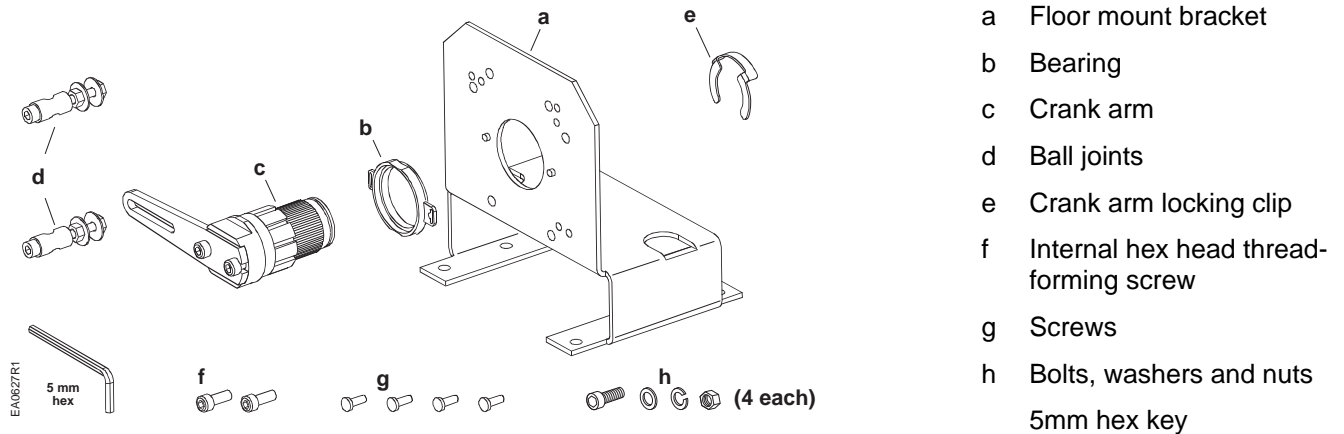

Figure 1. Contents of ASK71.1U Kit.
In thin duct sections, use a reinforcing plate and the bolts and washers (item h, *Figure 1*) when attaching the actuator to the duct.
1. Attach the mounting bracket to the floor of the duct using the four sheet metal screws or bolts (item g, *Figure 1*).